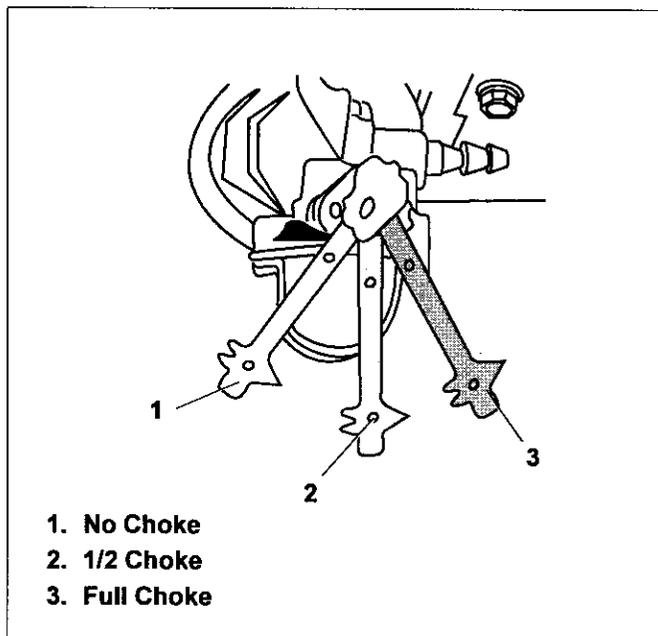

Figure 16. Choke Control Positions
3. Move engine choke back and forth several times and leave in the "Full" position. See Figure 16.